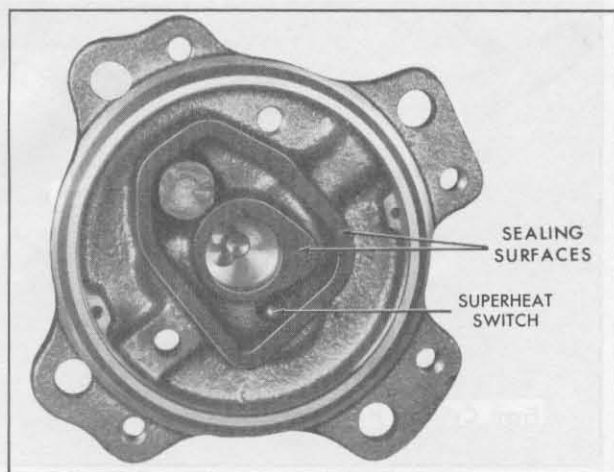

Fig. 1-74 Sealing Surfaces on Rear Head
7. Wipe excess oil from all sealing surfaces on rear head casting webs, and examine sealing surfaces, Fig. 1-74. If any damage is observed, head should be replaced.